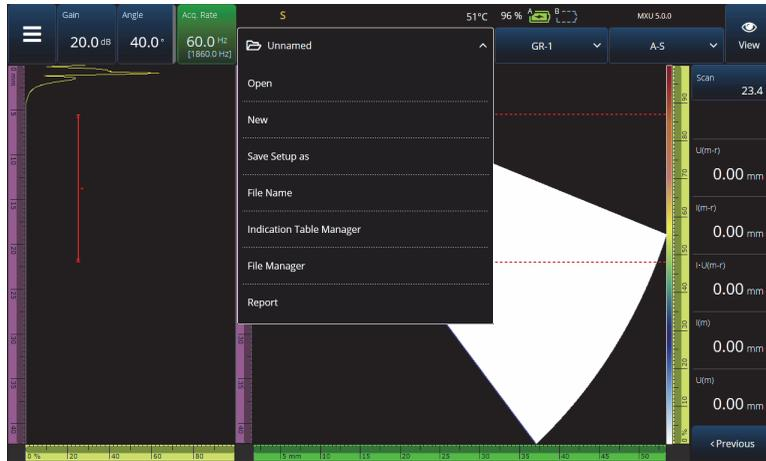
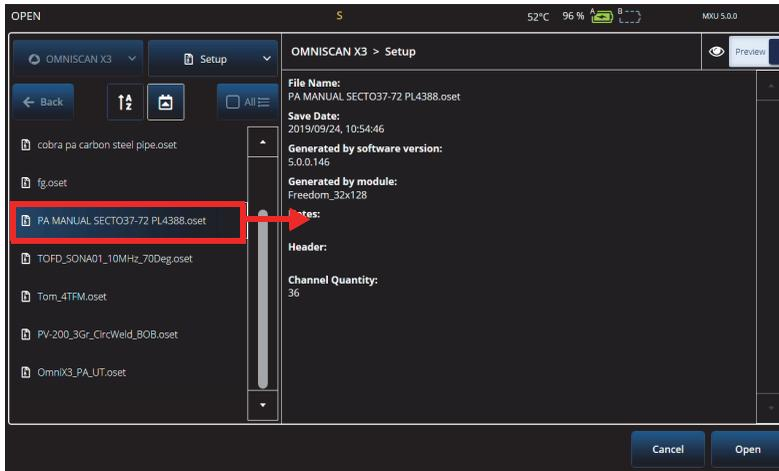

Figure 6-1 File menu
Figure 6-2 Open menu
Inspection setups and data are kept and organized using files, and presented in reports. You can use the **File** menu to access multiple file parameters, the **Report** tool, and the **File Manager** (Figure 6-1 on page 123).
- To save your setup file, select **Save Setup As** on the **File** menu (Figure 6-1 on page 123).
- To open a file, select **Open** on the **File** menu (Figure 6-1 on page 123), and then choose the directory in which the file is located. You can filter to display only the type of file you want to browse, and preview the selected file (Figure 6-2 on page 124).